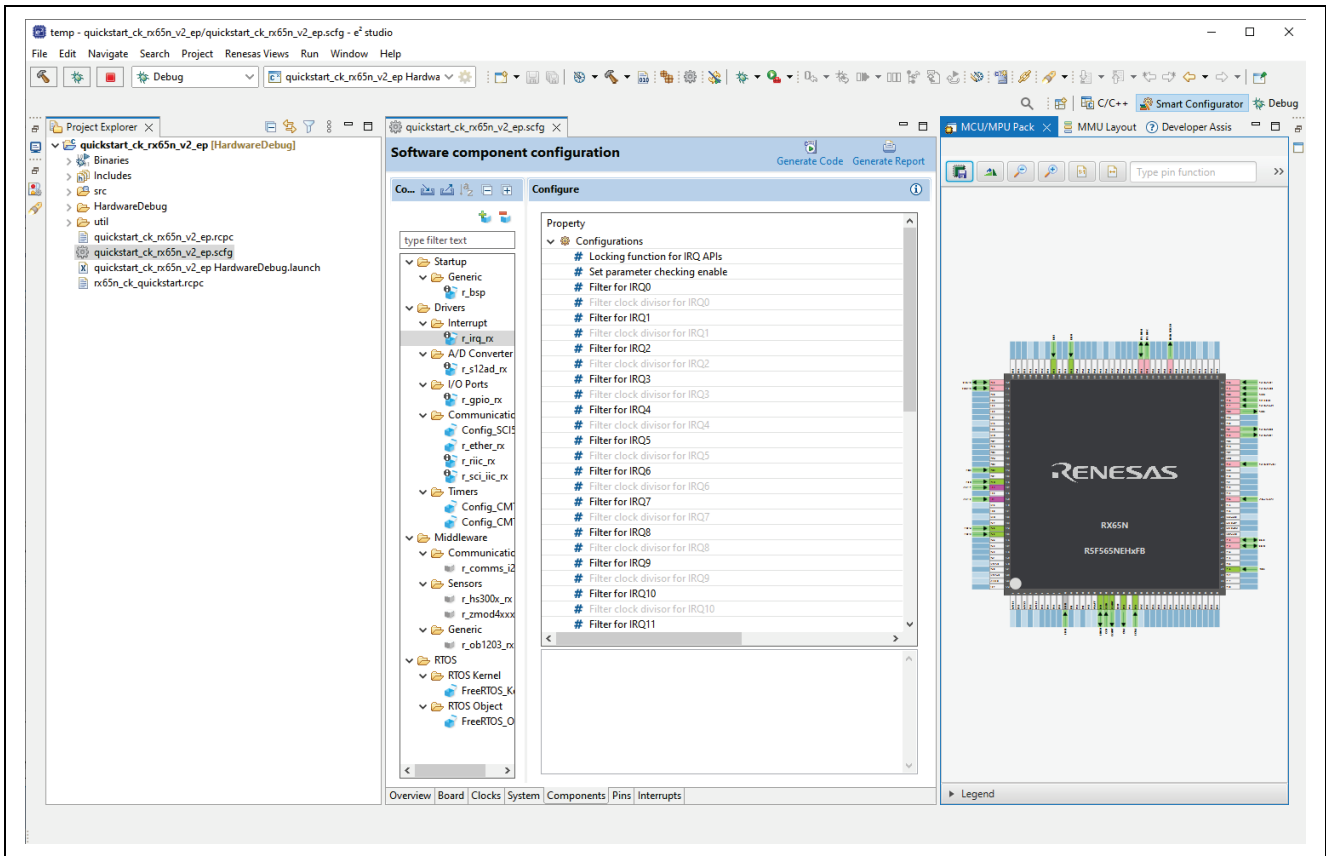

Figure 24. Modifying the Configuration Settings
2. For example, in the **Components** tab of the configurator, the user can click to select a module to modify its configuration settings, as required. Figure 24 illustrates modifying the **IRQ** configuration.